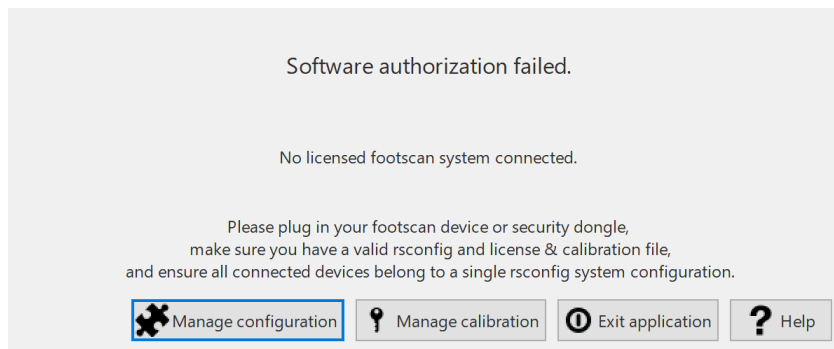

Figure 6: The software package and modules dialog can be opened in the security dialog.
1. By clicking the Manage configuration button in the Security Dialog (Figure 6). More information about the security dialog can be found in section 4.1.